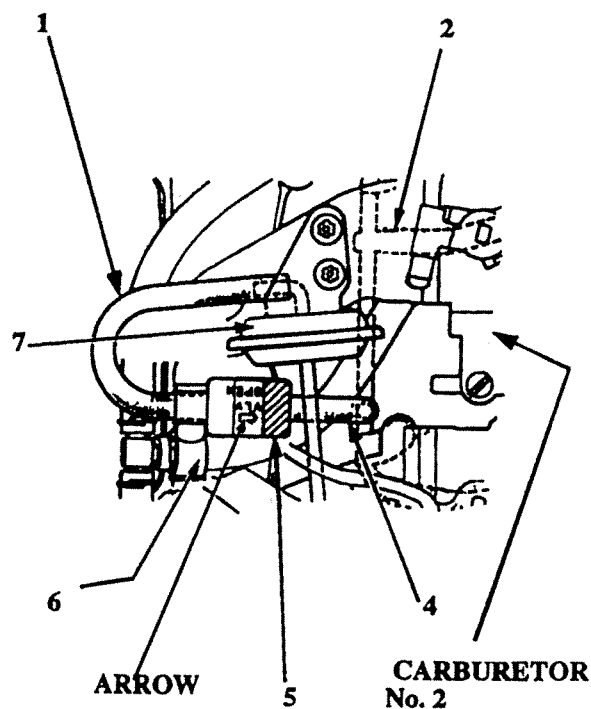

Fig. 32-12. Dashpot Check Valve Installation
Install diaphragm unit (7) dashpot check valve (5) fuel tube (1) fuel tube (4) fuel-tube clamp (6) and the install pipe (2) - Fig. 32-12 refers.